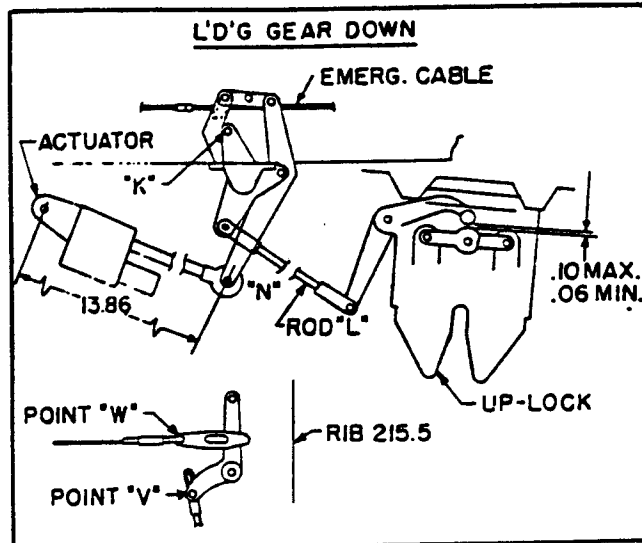

Figure 32. Rigging Main Gear Emergency Control Cables
Coordinate figure 32 with steps j through t which immediately follow.
- n. Disconnect actuator at "N," figure 32, and extend to 13.86 inches long as indicated.
- o. Connect actuator at "N." See figure 32.
- q. Adjust rod "L," figure 32, to produce .06- to .10-inch dimension.
- s. Disconnect normal system at point "W." See figure 32.
- t. Disconnect forward lock at point "V." See figure 32.